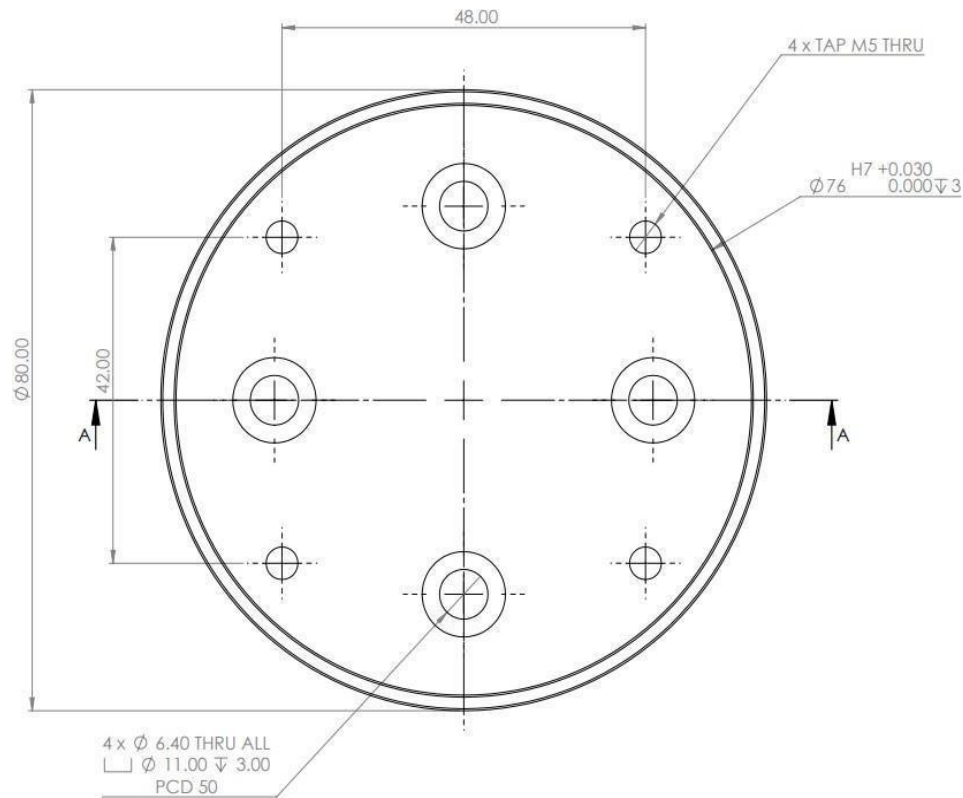

Figure 12: Mounting Tool Illustration
- Attach the tool to the tool mounting flange using M6 bolts, as illustrated in *Figure 12: Mounting Tool Illustration*.